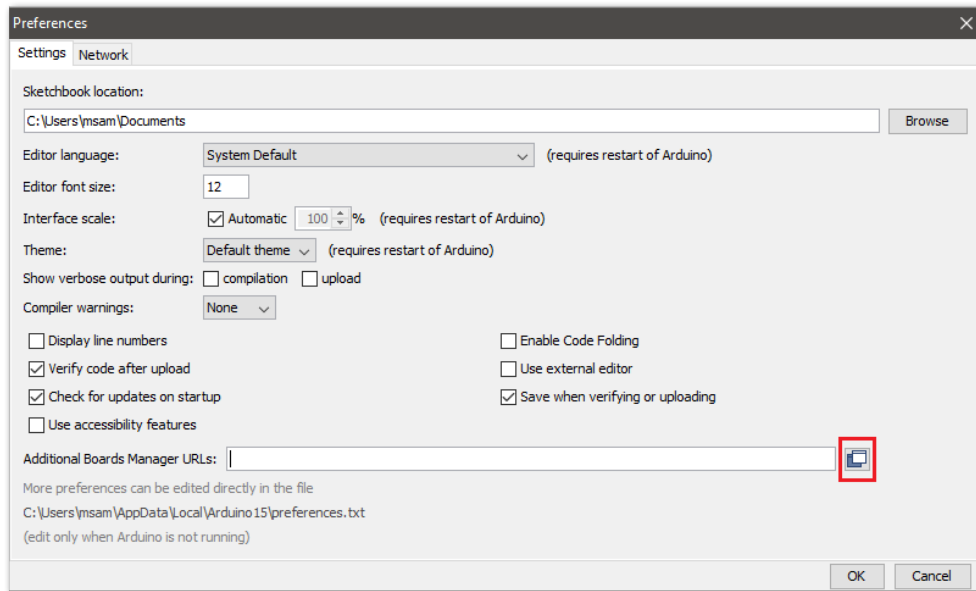

Figure 5: Modifying Additional Board Manager URLs
2. To add the RAK3172-E to your Arduino Boards list, edit the **Additional Board Manager URLs** and click the icon, as shown in **Figure 5**.